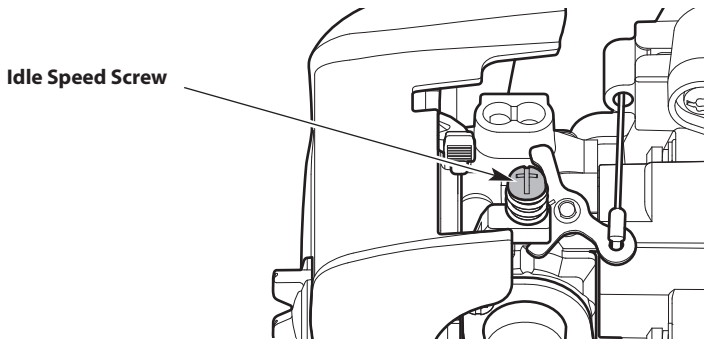

Fig. 29
- If the engine stops, increase the idle speed. Use a small Phillips screwdriver to turn the idle speed screw clockwise, 1/8 of a turn at a time, until the engine idles smoothly (Fig. 29).
- If the cutting head spins when the engine idles, reduce the idle speed. Turn the idle speed screw counterclockwise, 1/8 of a turn at a time, until the cutting head stops moving (Fig. 29).